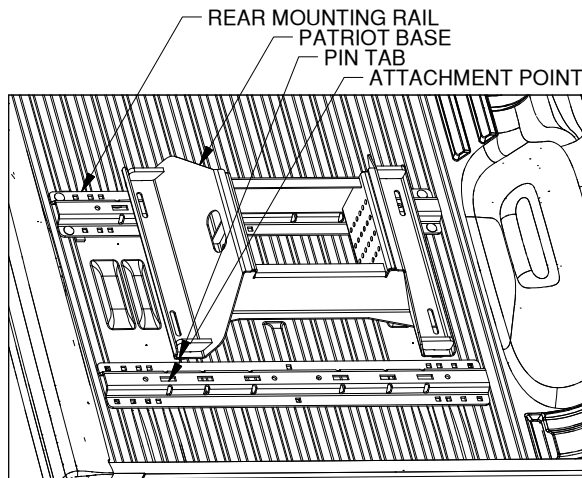

Figure C3: View into truckbed looking at tailgate.
1. **Position the forward mounting rail.** For this step the base which will be used in the mounting rails is required. Place a mounting rail into the truck bed in front of the rear mounting rail. Place the base over the rail attachment points and carefully lower it until the pin tabs pass through the attachment points on the rear mounting rail. Attach the forward mounting rail to the forward mounting points on the base. The base should rest flat against the top of the rails. See figure C3. With the base still attached ensure that the forward rail is centered in the truck bed.